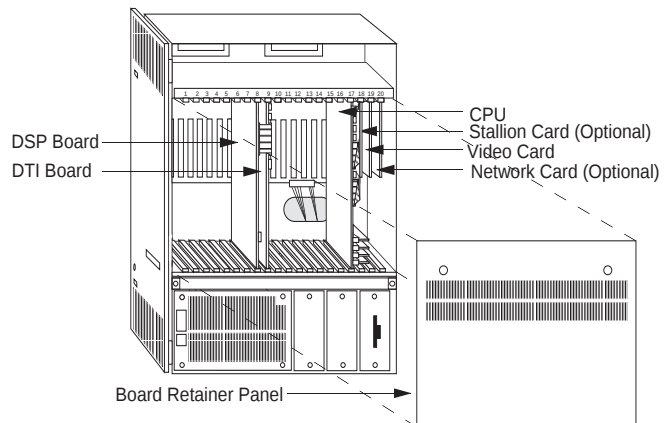

Figure 2-7
1. Remove the board retainer panel by removing the two captive screws above the panel ventilation slots and then lifting the retainer panel out of the cabinet. (See **Figure 2-7**)